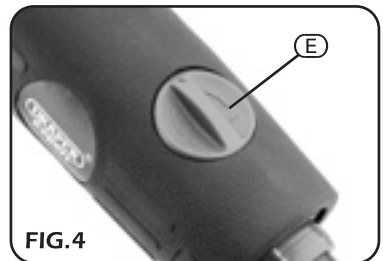

FIG. 4
- **AIR FLOW (SPEED) SELECTOR (Fig.4):**